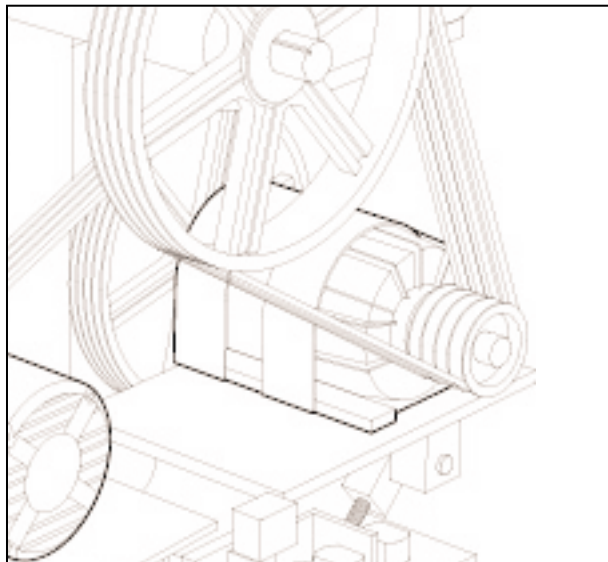

Figure 11.1
11.3.2 BESCODYNE CLUTCH/BRAKE UNIT (FIGURE 11.1)